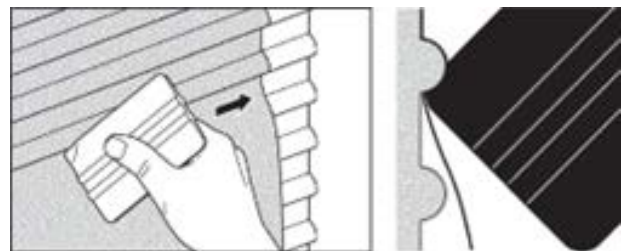

Figure 5. Squeegee the bottom of the corrugation.
6. Apply the film to the bottom of the corrugation with the corner of the squeegee. See Figure 5.